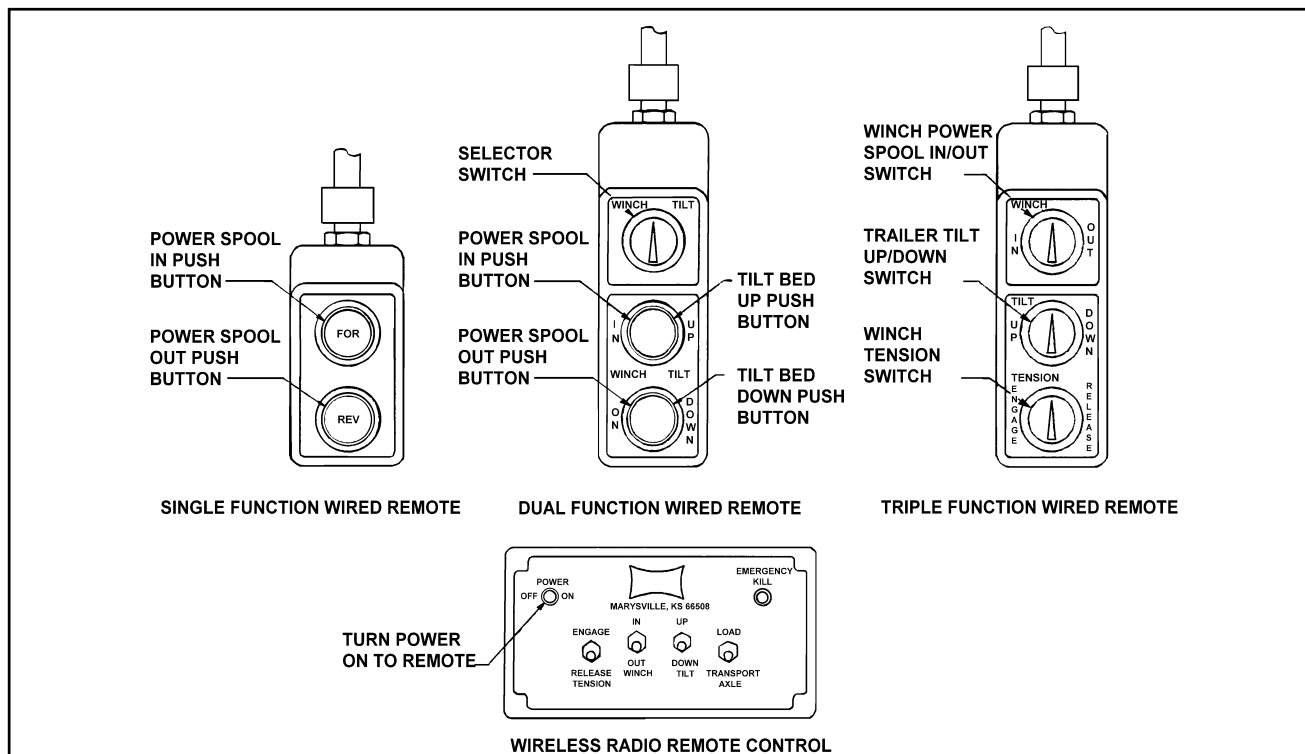

Figure 3-9 Examples of Remote Options
- 3-14.2** A wireless radio remote control is also available a dual, triple, or quadruple function (See Figure 3-9).